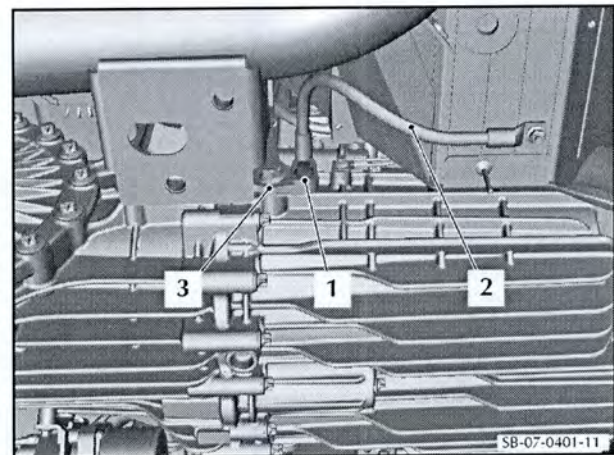

Figure 59
116. Install the bolt (1) that attaches the ground cable (2) to the transmission mount bracket (3) (refer to Figure 59).